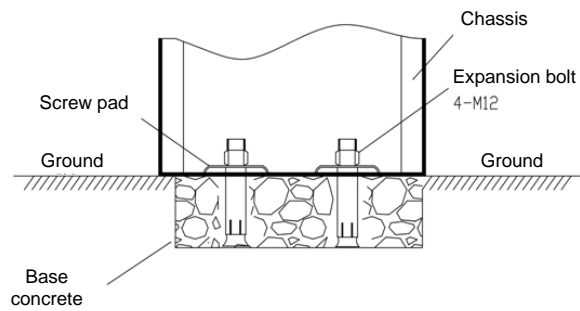

Figure 1-3
- 3) Install screw pads and use a wrench to tighten nuts, as shown in Figure 1-3.